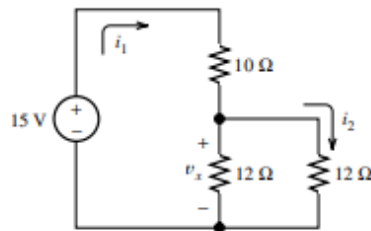

Figure P2.23
***P2.23.** Find the values of i_1 and i_2 in Figure P2.23.